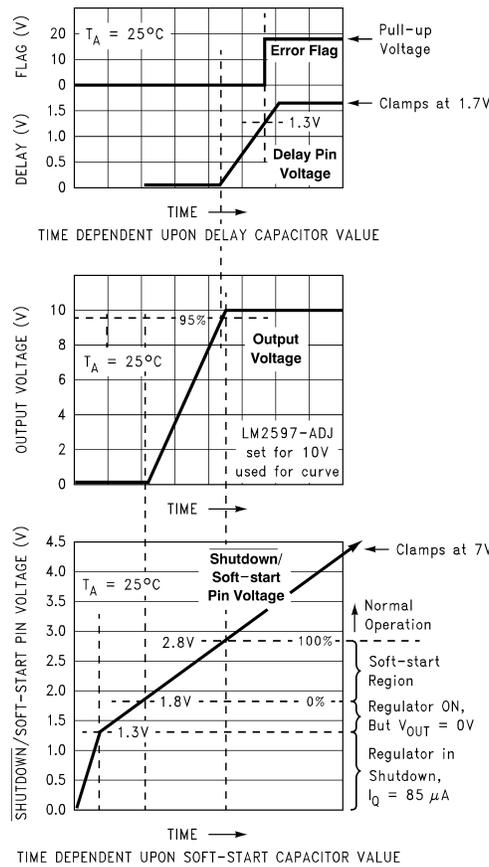
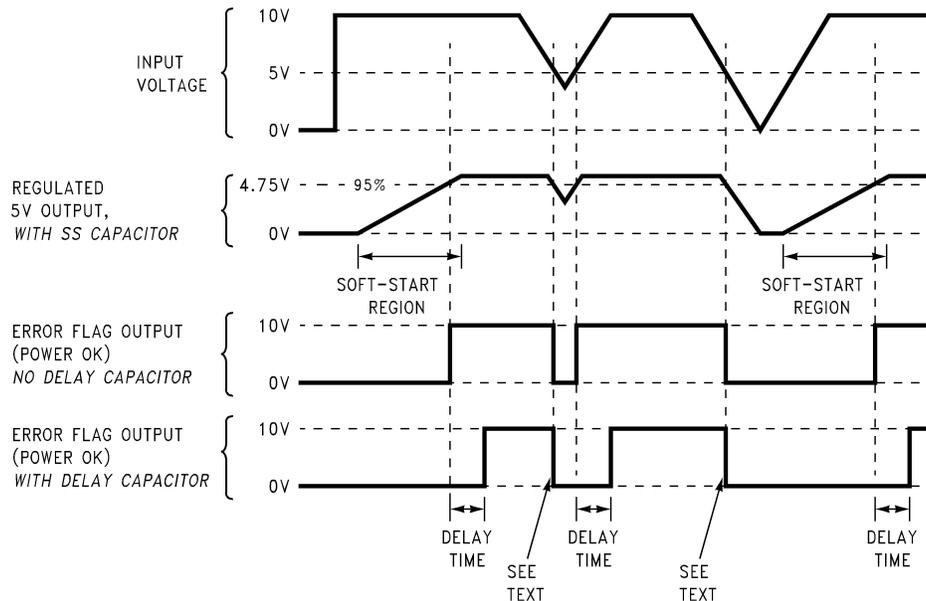

Figure 31. Soft-Start, Delay, Error, and Output
Figure 33. Timing Diagram for 5-V Output
A capacitor on this pin provides the regulator with a soft-start feature (slow start-up). When the DC input voltage is first applied to the regulator, or when the Shutdown/Soft-start pin is allowed to go high, a constant current (approximately 5 μ A begins charging this capacitor). As the capacitor voltage rises, the regulator goes through four operating regions (see the bottom curve in Figure 31).
3. Soft-start Region – When the $\overline{SD/SS}$ pin voltage is between 1.8 V and 2.8 V (at 25°C), the regulator is in a soft-start condition. The switch (Pin 8) duty cycle initially starts out very low, with narrow pulses and gradually get wider as the capacitor $\overline{SD/SS}$ pin ramps up towards 2.8 V. As the duty cycle increases, the output voltage also increases at a controlled ramp up. See the center curve in Figure 31. The input supply current requirement also starts out at a low level for the narrow pulses and ramp up in a controlled manner. This is a very useful feature in some switcher topologies that require large start-up currents (such as the inverting configuration) which can load down the input power supply.
The lower curve shown in Figure 31 shows the soft-start region from 0% to 100%. This is not the duty cycle percentage, but the output voltage percentage. Also, the soft-start voltage range has a negative temperature coefficient associated with it. See the soft-start curve in Electrical Characteristics.
Provides delay for the error flag output. See the upper curve in Figure 31, and also refer to timing diagrams in Figure 33. A capacitor on this pin provides a time delay between the time the regulated output voltage (when it is increasing in value) reaches 95% of the nominal output voltage, and the time the error flag output goes high. A 3- μ A constant current from the delay pin charges the delay capacitor resulting in a voltage ramp. When this voltage reaches a threshold of approximately 1.3 V, the open collector error flag output (or power OK) goes high. This signal can be used to indicate that the regulated output has reached the correct voltage and has stabilized.